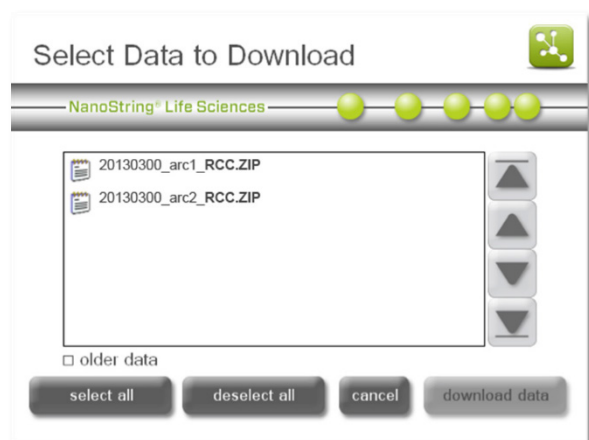

Figure 99: The 'Select Data to Download' screen.
The 'Select Data to Download' screen will appear (Figure 99).
1. In the ‘Select Data to Download’ screen, select the ‘older data’ option box (located below the file selection area; **Figure 99**).